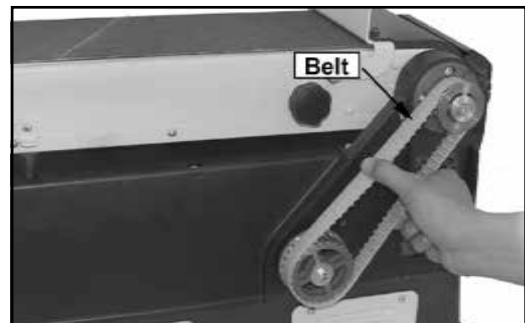

Fig. 22
3. Loosen four M8 hex head screws to allow the pulleys to shift enough to place belt around them. Place belt around motor pulley and drive pulley as shown. (See Fig. 22)